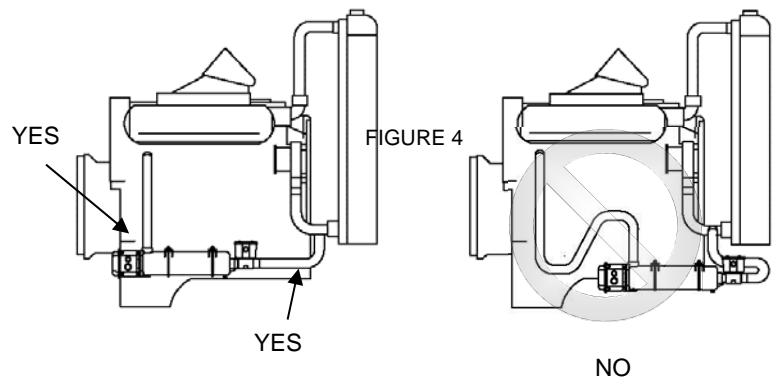

FIGURE 5
Heater Outlet: Install the hose between the outlet of the heater and the coolant return port on the engine. The hose must be routed to ensure a continuous rise from the heater to the engine. See Figure 5.
Heater Inlet: Connect hose from the inlet of the heater to where the coolant will be pulled out of the engine. There must be no high spots in the routing of the hose. See figure 5.
1. Airlocks may be present. Airlocks can form in hoses due to loops, routing over the top of the engine, excessive hose lengths, or kinks in hose. See Figure 5.